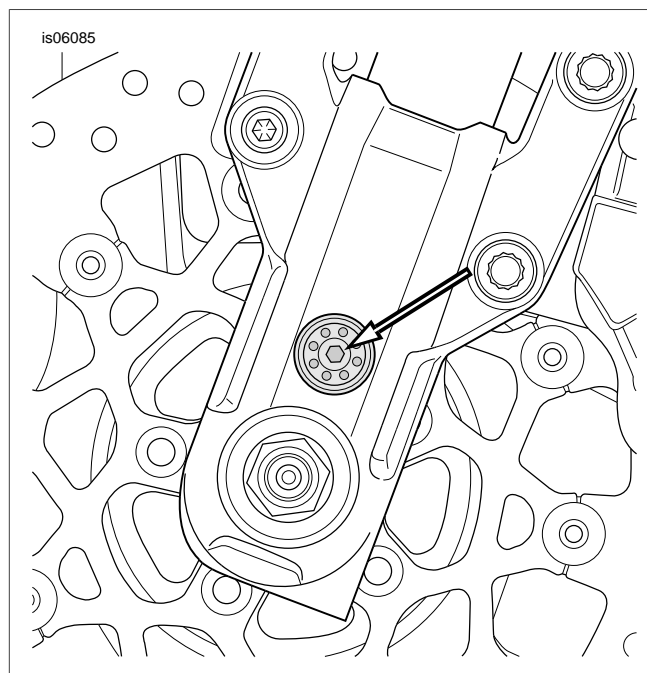

Figure 4. Fork Preload Adjuster
- a. See Figure 4 and Table 1. Using the 5 mm hex key, turn the preload adjuster counterclockwise until it stops. This is the minimum preload setting.